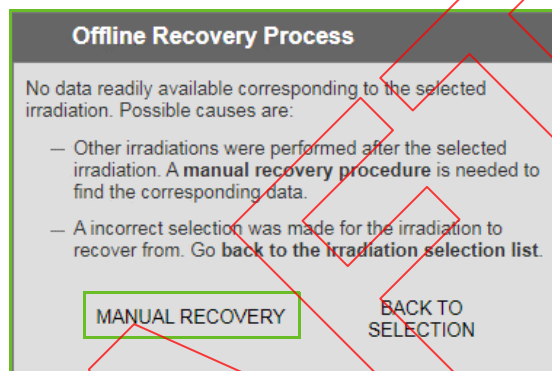

Figure 39-14. Recovery after termination by adaPT~~deliver~~ - Manual data recovery message (offline)
1. When the automatic recovery procedure fails, click **Manual Recovery** in the popup message (Figure 39-14).